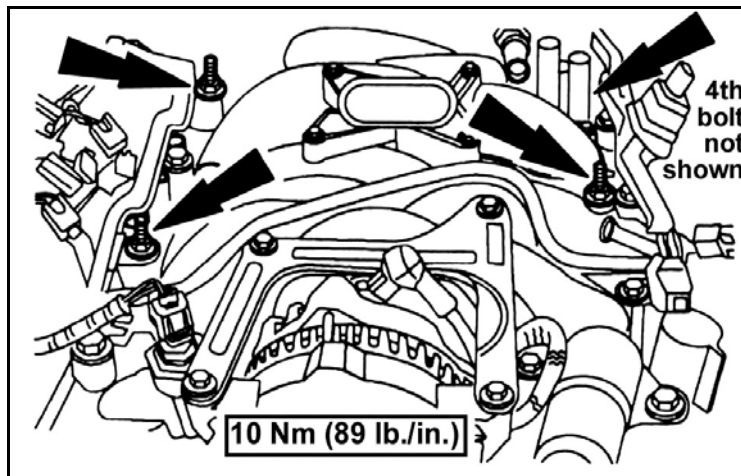

Figure 15
23. Loosen and remove the four fuel rail hold-down studs (Figure 15).